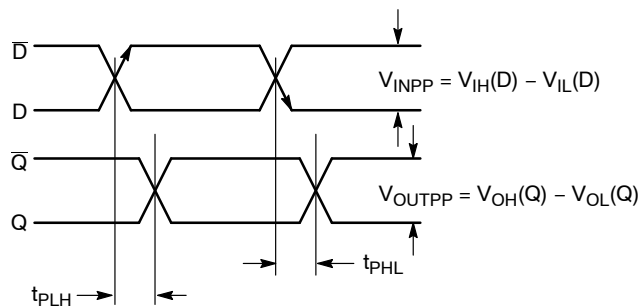

Figure 10. AC Reference Measurement
27. $t_{SKEW} = |t_{PLH} - t_{PHL}|$ for a nominal 50% differential clock input waveform. See Figure 10.
31. $t_{SKEW} = |t_{PLH} - t_{PHL}|$ for a nominal 50% differential clock input waveform. See Figure 10.
35. $t_{SKEW} = |t_{PLH} - t_{PHL}|$ for a nominal 50% differential clock input waveform. See Figure 10.
39. $t_{SKEW} = |t_{PLH} - t_{PHL}|$ for a nominal 50% differential clock input waveform. See Figure 10.